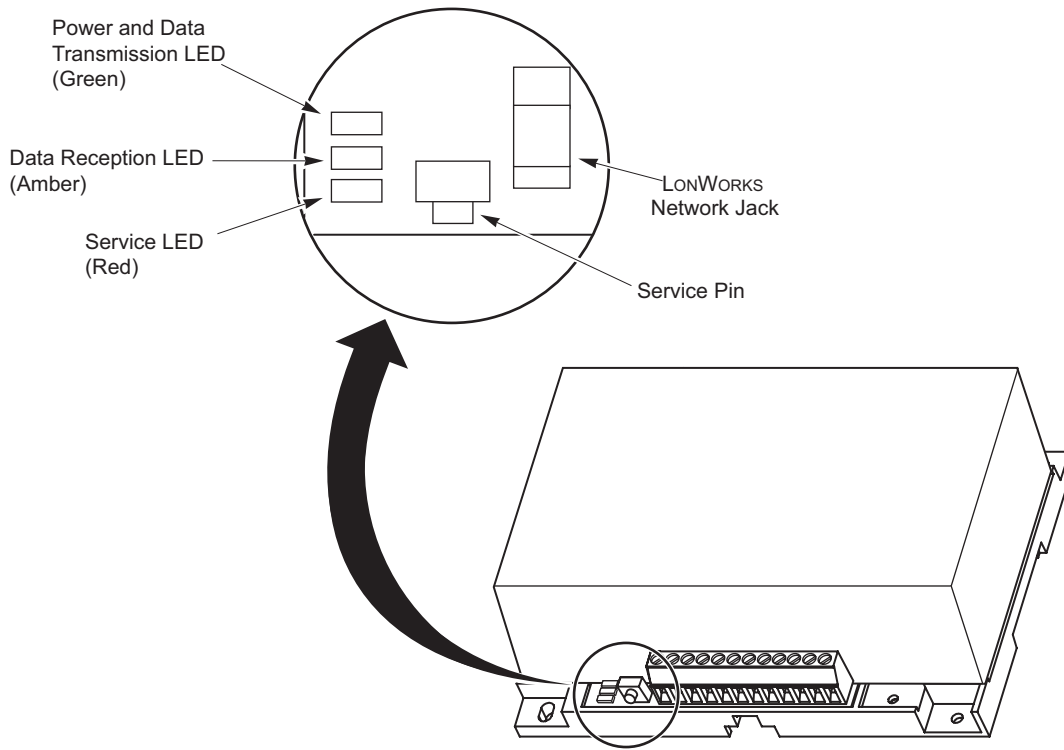

Figure-19 Location of Controller LEDs.
- 3.Observe the green Data Transmission LED (Figure-19) and do the following:
- 4.Observe the red Service LED (Figure-19) and do the following: